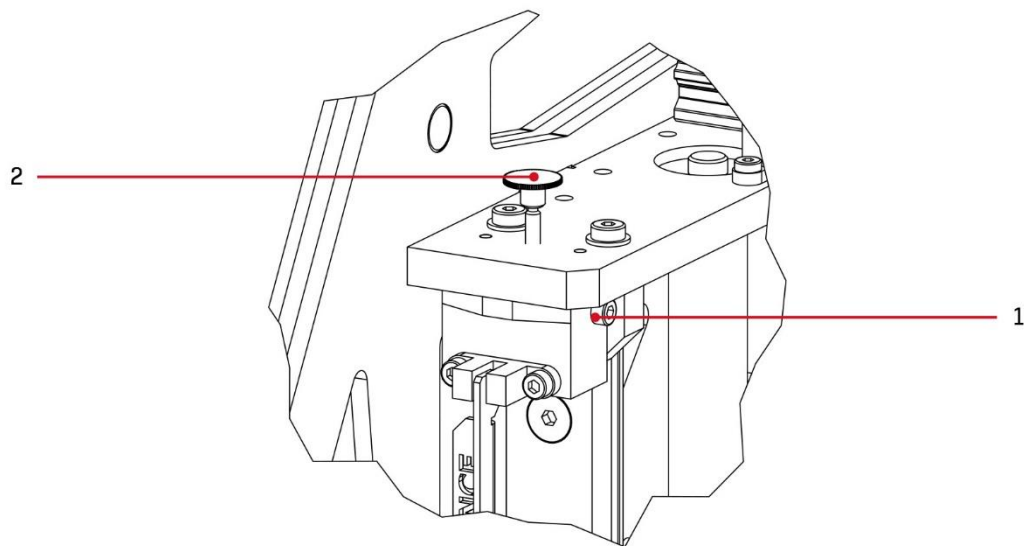

Fig. 30. Hotend height adjustment screws.
Carefully observe the movement of all axes. When Z axis reaches its limit switch, check the distance between the end of hotend and the heatbed. It should be about 0.8 - 1 mm (no more than 1 mm), greater distance may interrupt scanning the heatbed, which is displayed as an error „Heat bed scan aborted!” If the distance between the hotend end and heatbed is more than 1 mm, adjust it manually to 0.8 - 1 mm. To do this, release the screw (1) (fig. 30.) and adjust the distance using the knurled screw (2). Turning the knurled screw clockwise will increase the distance between the table and the head. Counter-clockwise turn will decrease the distance. A single full turn increases or decreases the distance by 0.5 mm. Once you have finished knurled screw adjustment, check the position of the nozzle with the command HOME Z and tighten the screw (1) again.